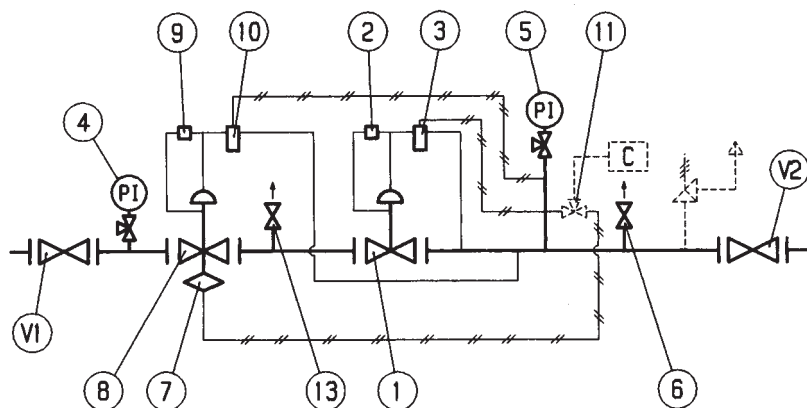

Fig. 28
5.7 MESSA IN SERVIZIO REGOLATORE APERFLUX 851 PIÙ MONITOR IN LINEA APERFLUX 851 CON VALVOLA DI BLOCCO INCORPORATA SB/82 (FIG. 28)
5.7 COMMISSIONING THE REGULATOR APERFLUX 851 PLUS APERFLUX 851 IN LINE MONITOR WITH INCORPORATED SB/82 SLAM-SHUT (FIG. 28)
5.7 INBETRIEBNAHME DES REGLERS APERFLUX 851 MIT IN REIHE GESCHALTETEM MONITOR APERFLUX 851 MIT INTEGRIERTEM SAV SB/82 (FIG. 28)
5.7 MISE EN SERVICE DU DÉTENDUEUR APERFLUX 851 ET MONITOR EN LIGNE APERFLUX 851 AVEC VANNE DE SÉCURITÉ INCORPORÉE SB/82 (FIG. 28)
5.7 PUESTA EN SERVICIO DEL REGULADOR APERFLUX 851 CON MONITOR EN LÍNEA APERFLUX 851 Y VÁLVULA DE BLOQUEO INCORPORADA SB/82 (FIG. 28)
5.7 ACTIVAÇÃO DO REGULADOR APERFLUX 851 COM MONITOR EM LINHA APERFLUX 851 COM VÁLVULA DE BLOQUEIO INCORPORADA SB/82 (FIG. 28)